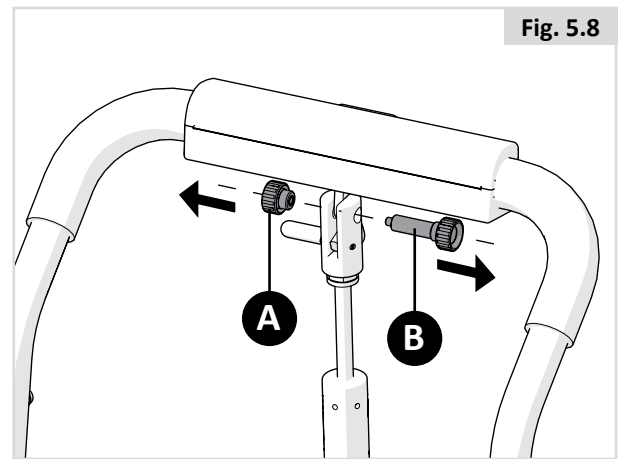

Fig. 5.8
To fold your backrest (applies to manual adjustable and power reclining backrest) release plastic thumbscrew (A) and pull out other thumbscrew and axle (B) (Fig. 5.8).